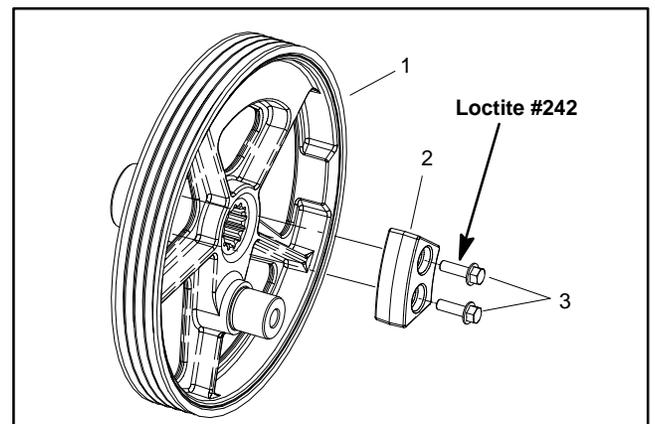

Figure 15
5. Drive spring pins (item 11) from bearing housing and coring head frame.
- A. Remove cap screw (item 1) and flat washer (item 2) that fasten crankarms together. Note that crankarm journals are positioned 180° from each other.
8. If necessary, remove counterweight from driven pulley (Fig. 15).